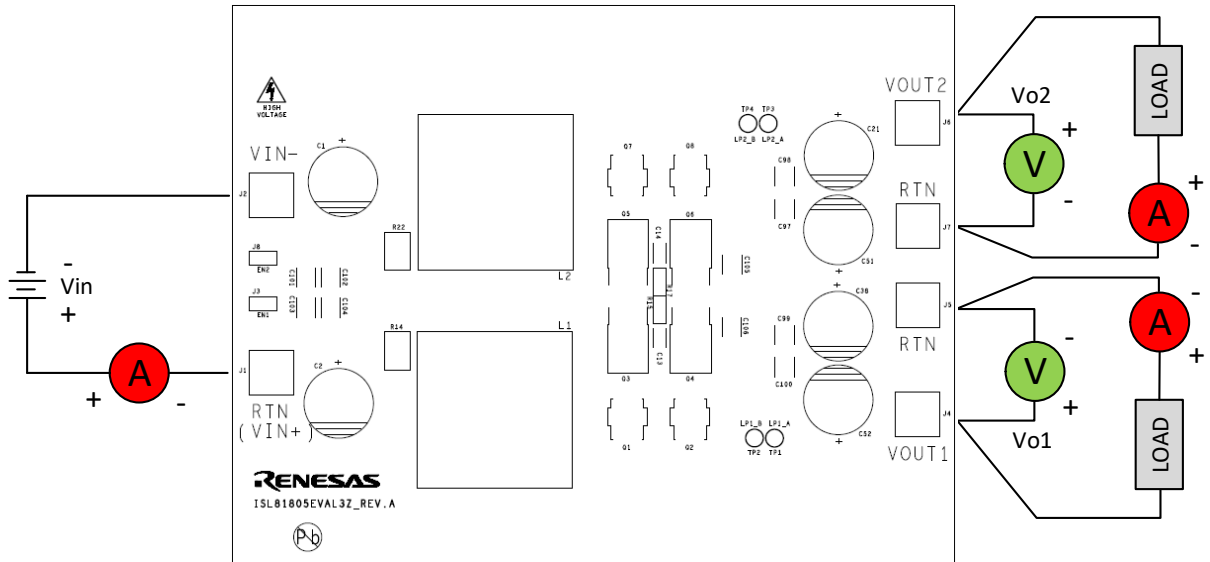

Figure 3. Proper Test Setup
As shown in Figure 3, -36V to -60V  $V_{IN}$  is supplied to J1 (+) and J2 (-). The regulated 12V output is on J4 (+) and J5 (-), while the regulated 5V output is on J6 (+) and J7 (-). Because of the high-power efficiency, the evaluation board can run at 40A in total continuously without airflow at ambient room temperature conditions.
1. See Table 2 for the operating options. Ensure that the circuit is correctly connected to the supply and electronic loads before applying any power. See Figure 3 for the proper setup.